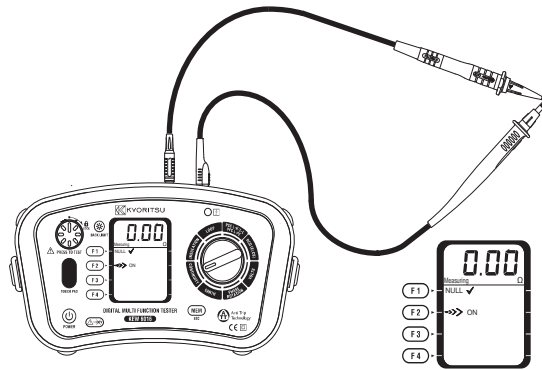

Fig.13
- 3 Connect the ends of the test leads firmly together (see Fig.13) and press and lock down the test button. The value of the lead resistance will be displayed.
5 Release the test button. Press the test button and ensure the display reads zero before proceeding. While using the Continuity null function, “NULL ✓” is displayed on the LCD as indicated in Fig.13. The null value will be stored even if the instrument is powered off. This memorized null value can be cancelled by disconnecting the test leads and pushing the Continuity Null button (F1) with the test button pressed or locked. When this is cancelled you will know because NULL OFF is displayed on the LCD.